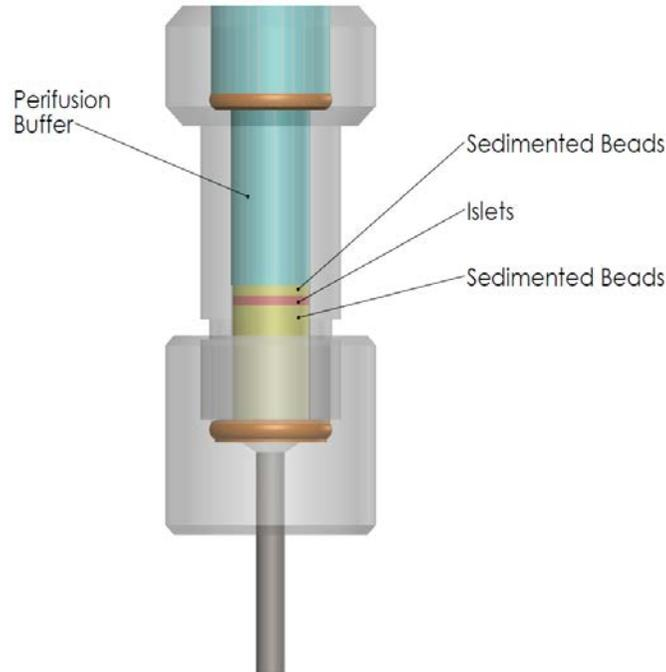

Figure 23. CELL LOADING
- Add 100-150µL of premixed bead suspension to each chamber. The exact amount depend on how much PB was added to the dry beads. Do not add more than ¼ chamber of sedimented beads (Figure 23). It is important to have a column of PB in the chamber to trap any bubble floating (Figure 23). If necessary, remove any excess of beads with a pipette. If there is not PB on